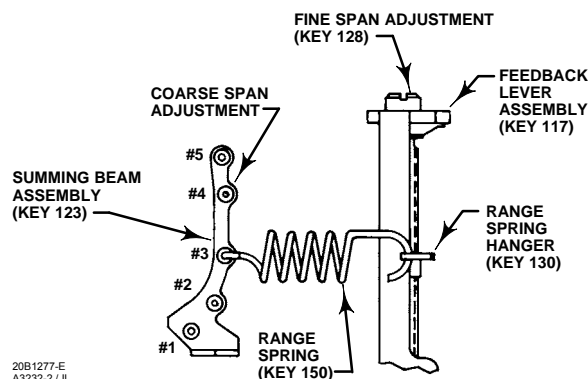

Figure 15. Span Adjustment
2. Use tables 8 through 11 and figure 15 to select the desired range spring and coarse span adjustment. (The tables and figure 15 are only valid for the standard valve travel/range spring combinations shown.) Insert one end of the range spring (key 150, figure 25) into the hole on the range spring hanger (key 130) as shown in figure 15. Insert the other end of the range spring into the hole selected on the summing beam assembly (key 123, figure 15).
**Be sure the range spring hanger (key 130) passes under the feedback lever assembly (key 117) as shown in figure 15.**
Table 12 shows some typical split ranges for the positioners. Refer to tables 8 through 11 and figure 15 for the correct range spring and range spring hole selection for the desired coarse span adjustment. Contact your Emerson Process Management sales office, or the factory for input signal ranges not shown in table 12.